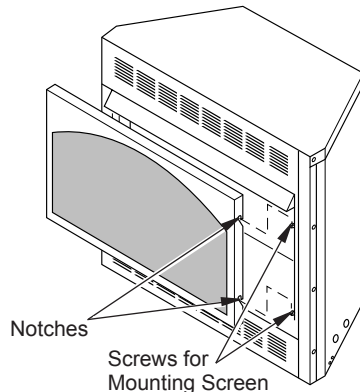

Figure 30 - Installing Fireplace Screen
4. Install fireplace screen by slipping notches of fireplace screen over screws on front of fireplace (see Figure 30).
2. Install fireplace screen by slipping notches of fireplace screen over screws on front of fireplace (see Figure 30, page 17).